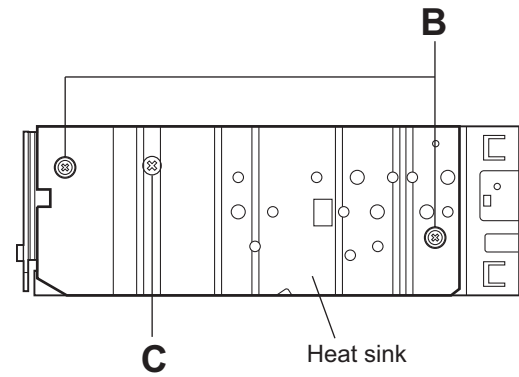

Fig.4
3.1.3 Removing the heat sink (See Fig.4)